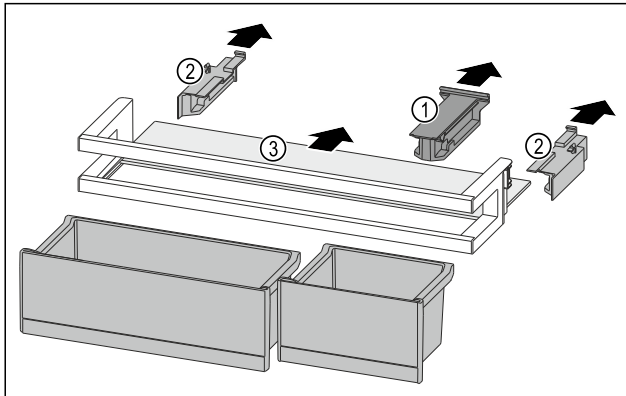

Fig. 97
- ▶ Pull off the holding part Fig. 97 (1).
- ▶ Pull off the side parts Fig. 97 (2).
- ▶ Remove the shelf Fig. 97 (3).